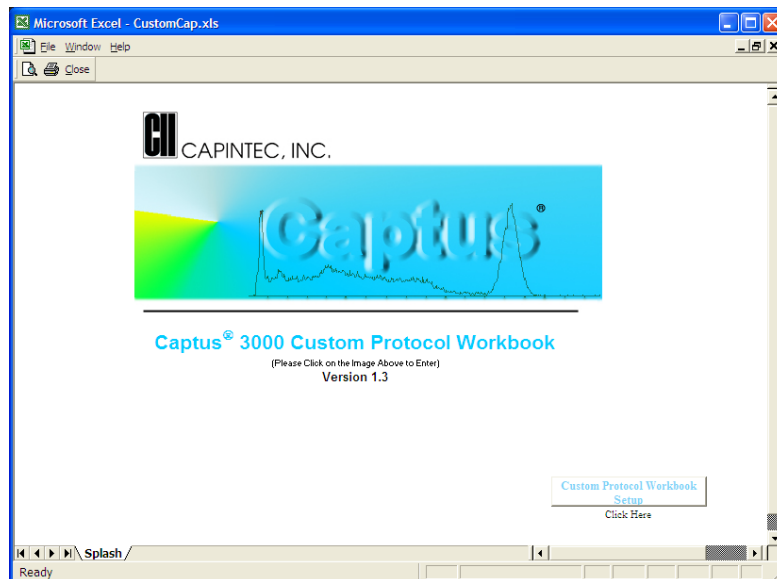

Figure 16-36
2. Click on the Captus logo (Figure 16-36). When you are in the correct area of the workbook, the mouse pointer will change from a plus to an arrow.